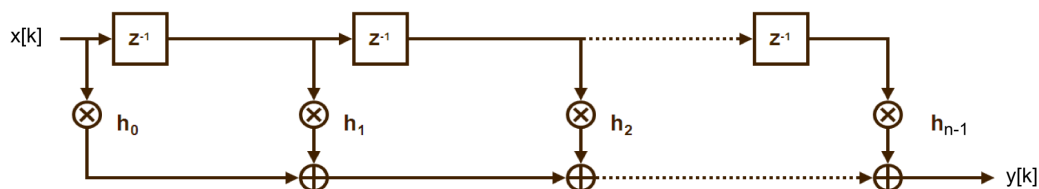

Figure 7: Structure of a  $n$ -tap FIR filter in direct form
In this part, you will design a 16-tap FIR filter in VHDL and will simulate it in Modelsim. The filter should be implemented once in direct form and then pipelining should be applied. The structure of a direct form FIR filter is given in Figure 7.
**Task 1** Inputs of the 16-tap filter are represented by 8 bits, also 7 bits are assigned for each of the filter coefficients. What are the required word lengths for the adders and multipliers in every tap to achieve a full precision processed output? Consider the direct form structure for the filter as in Figure 7?